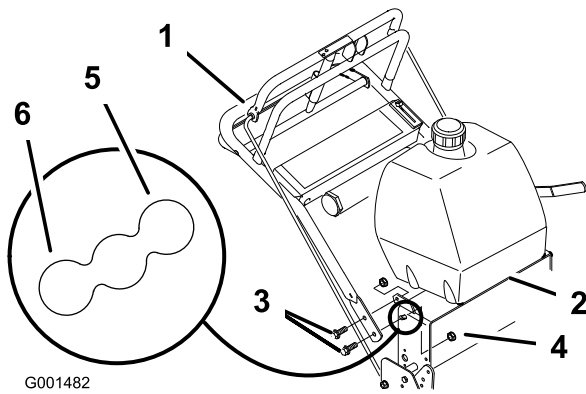

Figure 21
2. Loosen the upper flange bolts (3/8 x 1 inch) and flange nut securing handle to rear frame (Figure 21).
- Remove the lower flange bolts (3/8 x 1 inch) and flange nuts securing handle to rear frame (Figure 21).